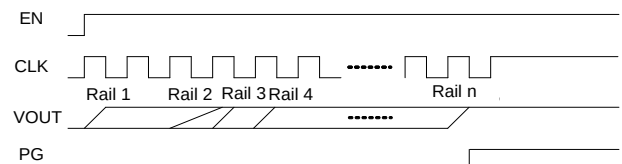
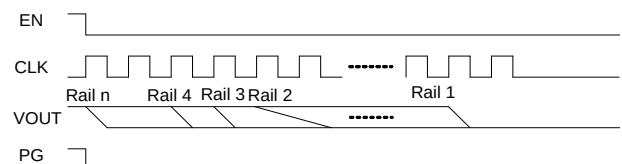

Figure 6: Soft Start when CLK Does Not Pull Down (Not Pausing)
Figure 7 Soft Shutdown when CLK Does Not Pull Down (Not Pausing)
- If CLK_PAUSE_EN = 0, the initiator/target PMIC does not pull the CLK pin down during the soft start/shutdown of any power rails. Figure 6 shows soft start when CLK does not pull down. Figure 7 shows soft shutdown when CLK does not pull down.